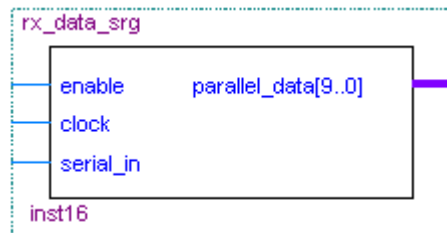

Figure 1 Receiver Shift Register
1. Create a 10-bit shift register in VHDL, as shown in Figure 1. The shift register should have the following features: